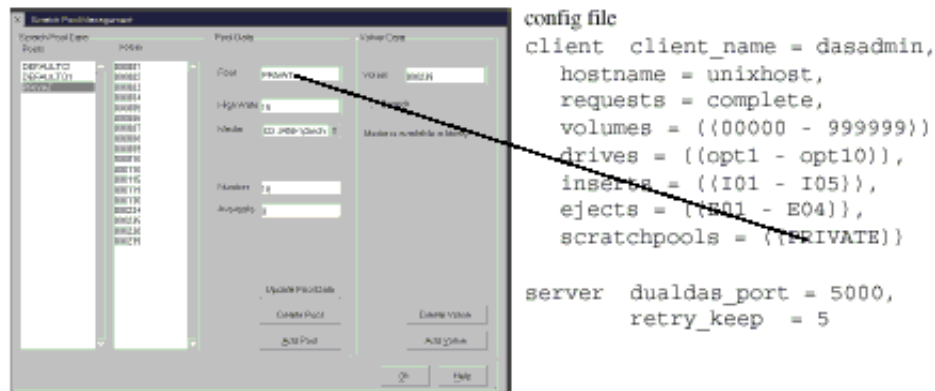

Figure 4-5 Scratchpool Configuration
Step 1 Open Admin Scratch Pool.. from the menu. Refer to Figure 4-5